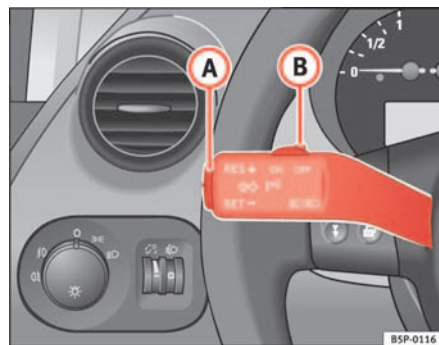

Fig. 143 Turn signal and main beam lever: switch and rocker switch for CCS
- Press the upper part **RES+** of the rocker switch ⇒ fig. 143 **A** to increase the speed. The vehicle will continue to accelerate for as long as you keep the rocker switch pressed. When you release the switch, the new speed is stored.
Control of the set speed is switched off if you reduce speed by depressing the brake pedal. You can reactivate the control by pressing once on the upper part of the rocker switch **RES+** → page 175, fig. 143 **A**.